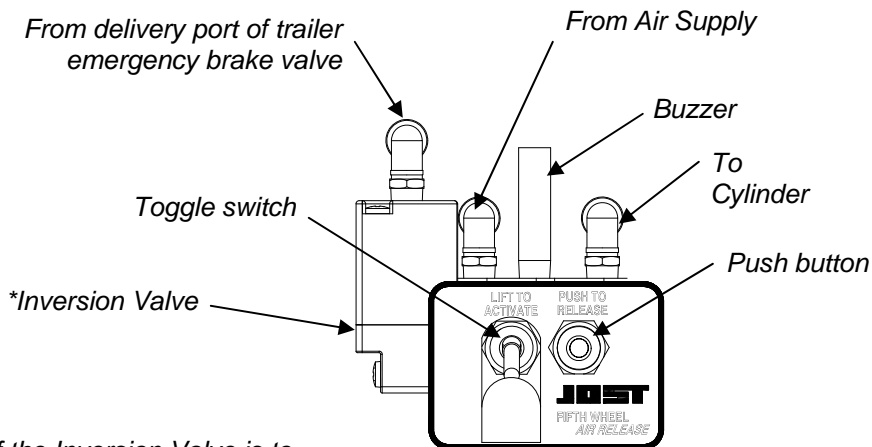
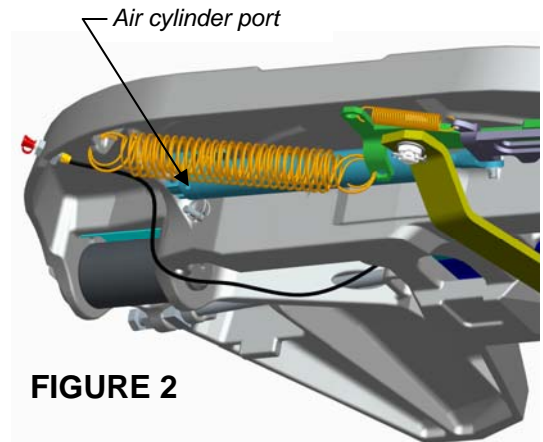

FIGURE 1
FIGURE 2
1. Install a tee in the line from the delivery port of the trailer emergency brake valve. Connect a line from the tee to the port on the inversion valve (see figure 1).
2. Connect an air source from the tractor (after the tractor protection valve) to the port labeled "From Air Supply" on the air release manifold (see figure 1).
3. Connect a line from the port labeled "To Cylinder" on the air release manifold (see figure 1) to the port on the air release cylinder under the fifth wheel toplate (see figure 2).